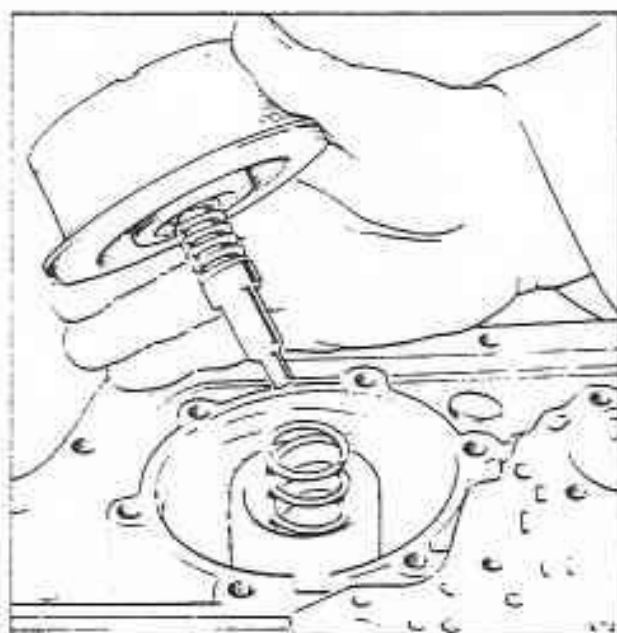

Fig. T13-5 Removing the rear servo
5. Remove the servo unit from the casing (see fig. T13-5).